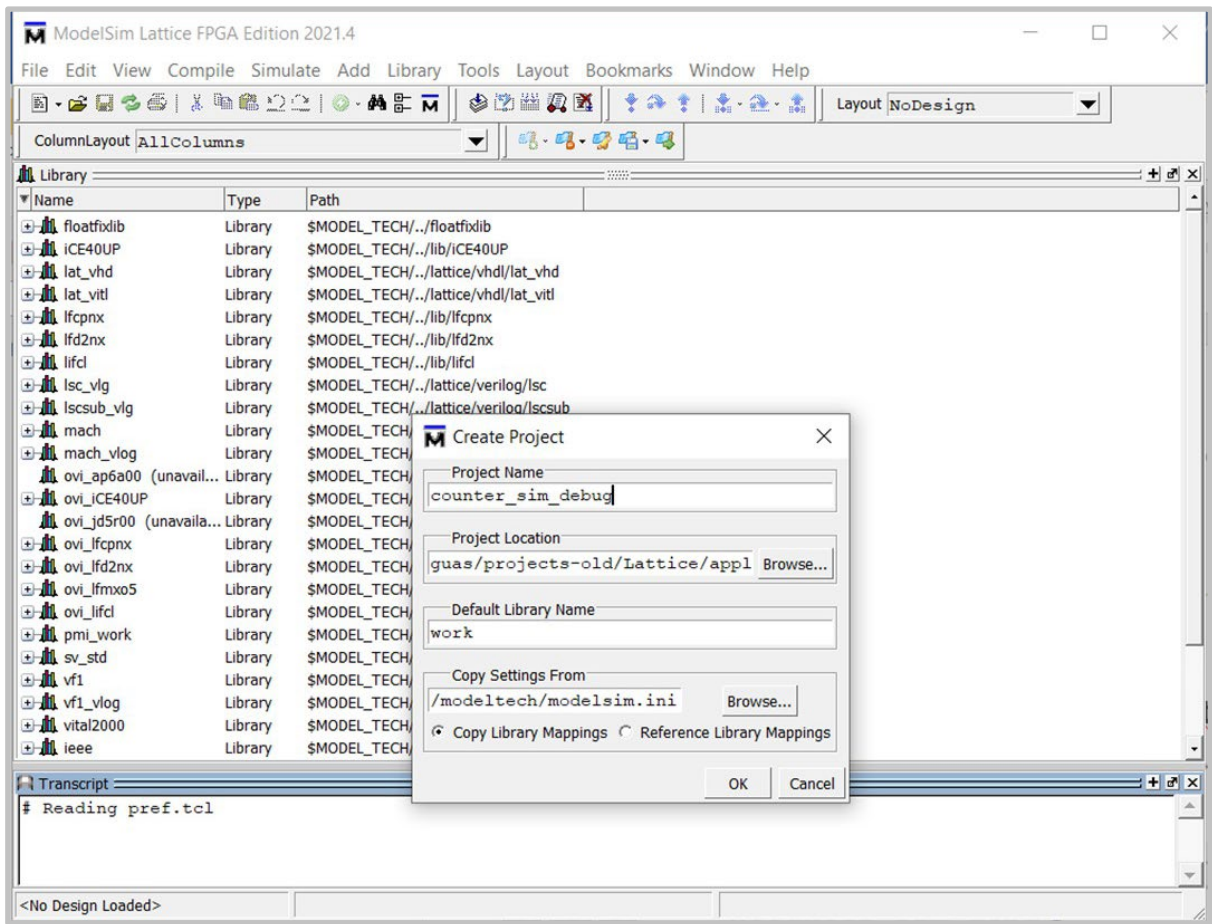

Figure 3: Naming the Project
- Specify the project name as **counter_sim_debug**, navigate to the **Project Location** of your choice and click **OK**, see **Figure 3**.